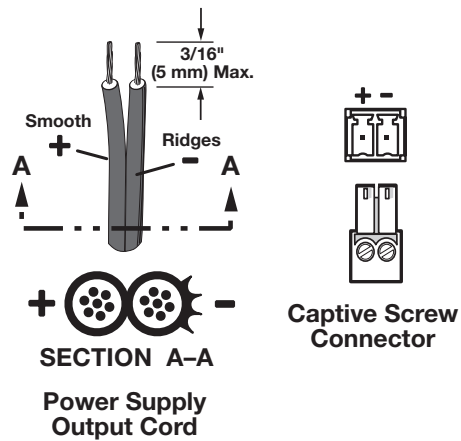

Figure 9. Power Connector Wiring
Figure 9 shows how to wire the connector. Snap the provided ferrite bead onto the DC power cable, between the power supply and the connector on the HDMI unit.
- Power supply voltage polarity is critical. Incorrect voltage polarity can damage the power supply and the unit. The ridges on the side of the cord (see figure 9) identify the power cord negative lead.